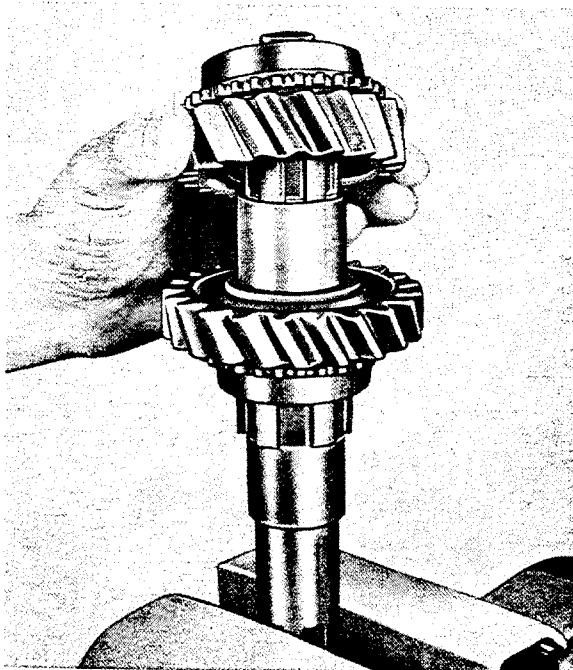

Fig. G 3/19
19. Take off third speed gear with synchronizer ring as well as brass washer (contact washer) and steel bushing with collar (Fig. G 3/19).